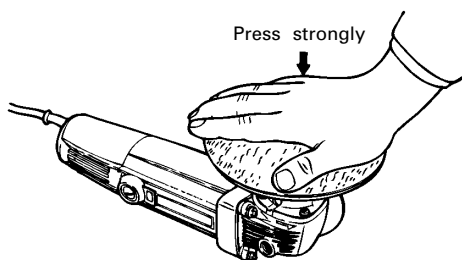

Fig. 3
- (3) Ensure that the sanding paper is securely attached to the pad by pressing the paper strongly with the palm of the hand, as shown in Fig. 3.